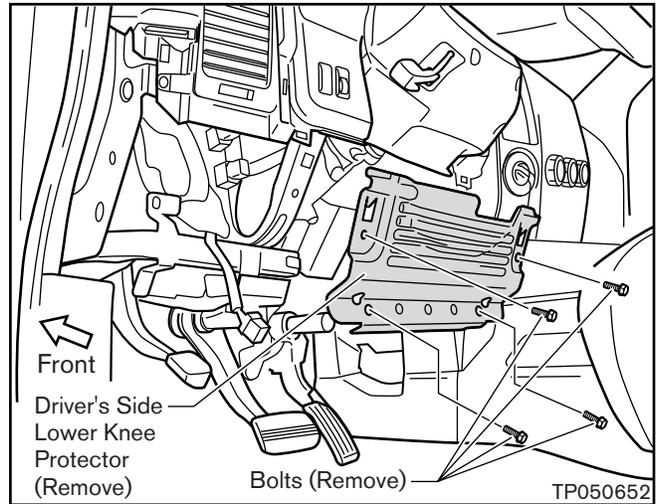

Figure 4
4. Remove four Bolts and remove the Driver's Side Lower Knee Protector (see Figure 4).